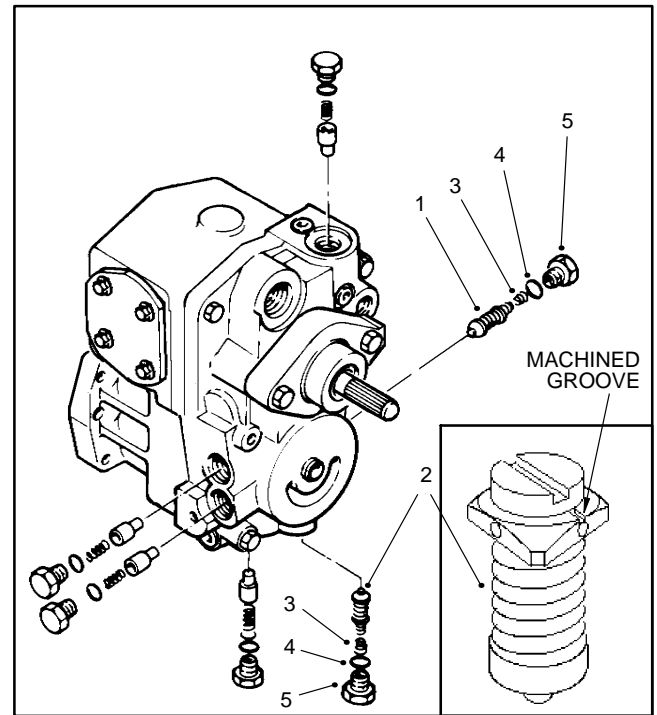

Figure 77
2. Remove check/high pressure relief valve hex plug (Fig. 77).